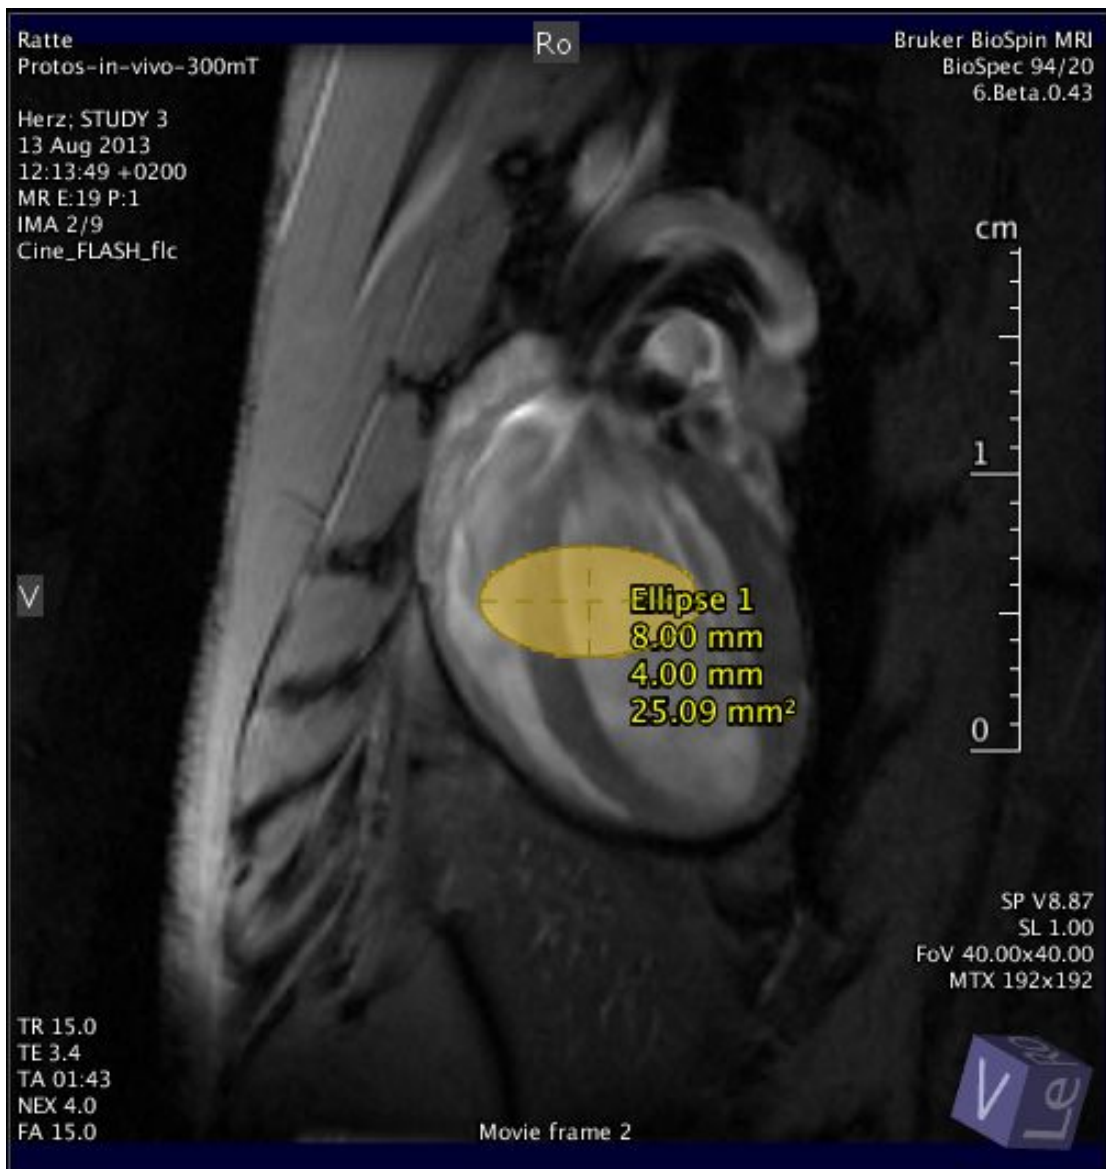

Figure 1.130: Initial Elliptical ROI
4. Click the image to place the new ROI. An elliptical ROI appears on the selected image (see [Figure 1.130 \[▶ 152\]](#)).